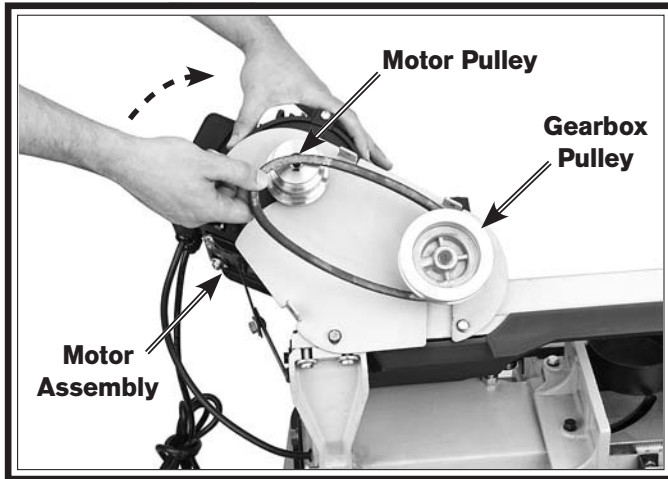

Figure 17. Installing belt.
13. Pivot the motor assembly upward, then place the belt over the gearbox and motor pulleys, as shown in **Figure 17**.